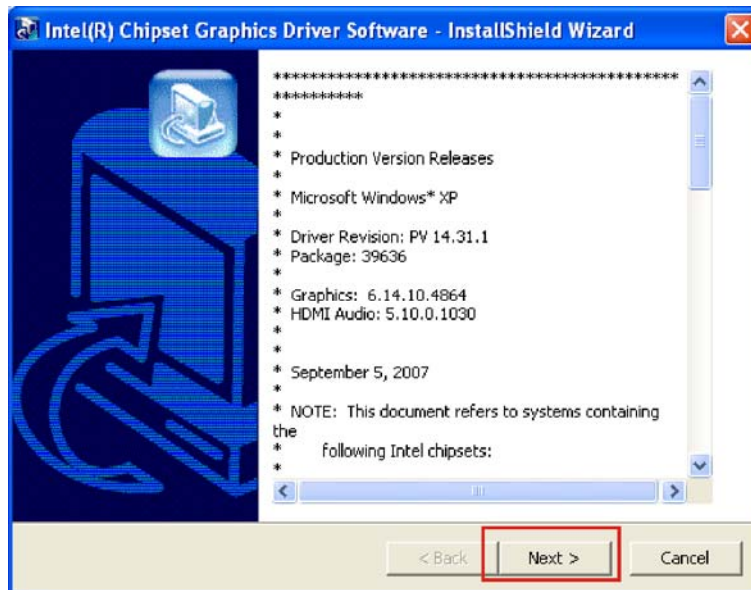

Figure 7-9: VGA Driver Version Information
Step 4: The driver version information is shown in **Figure 7-9**.